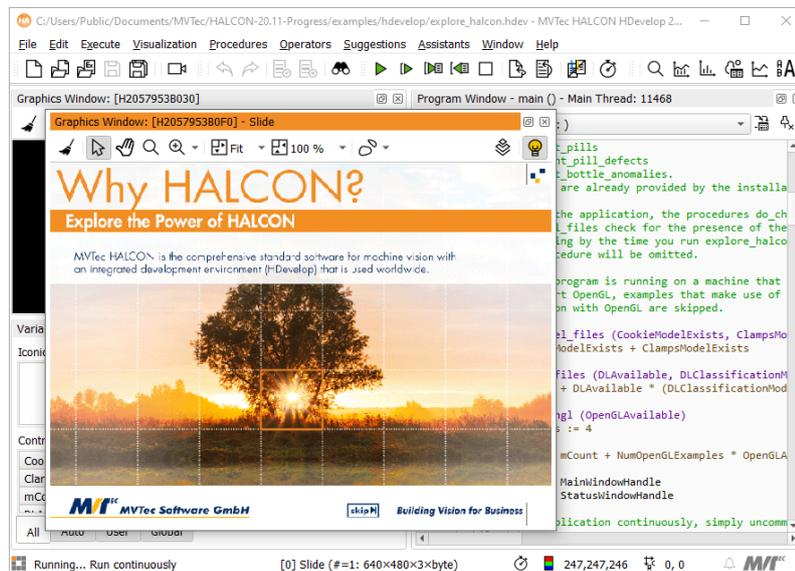

Figure 2.3: Explore the power of HALCON.
“Explore the Power of HALCON” starts up automatically when loaded from the start dialog. After loading it manually or loading one of the other example programs click  or press **[F5]** to start it, see figure 2.3 (1).